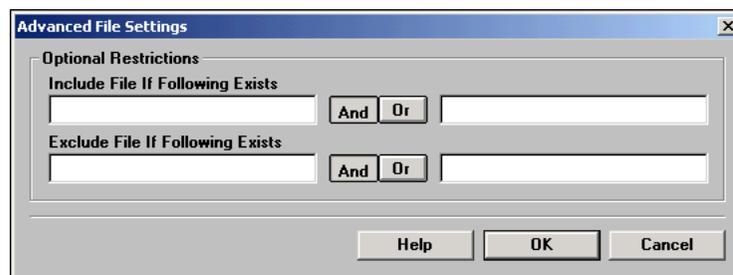

Fig. 162 Advanced File Settings Dialog
- 4 To more precisely define the existence or absence of a software package, click **Advanced**. The **Advanced File Settings** dialog appears, as shown in Fig. 162.